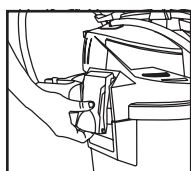

FIGURE 4
4. Pull lid latches out from bottom, lift up on bottom of latch and bring down to side of tank. **FIGURE 4.**